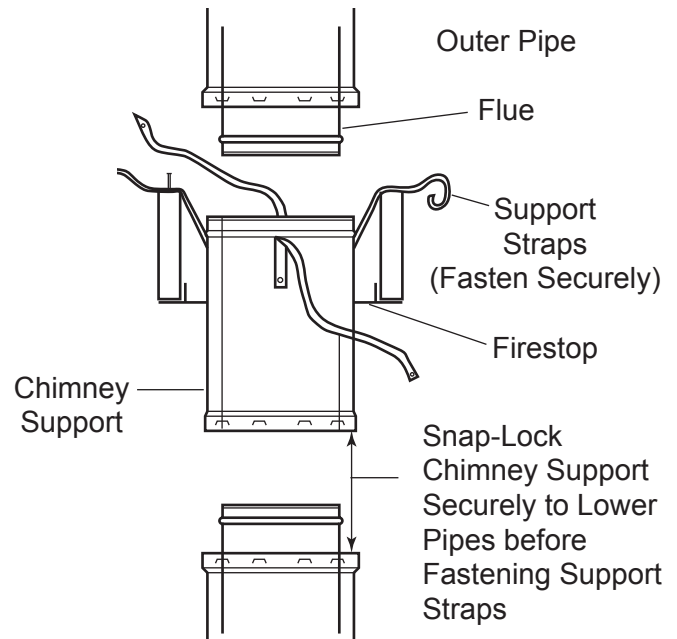

Figure 20 - Installing Chimney Supports
Nail the support straps tightly to a building frame member or ceiling joist as shown by *Figure 20*. Use at least two (2) 8-penny nails per strap.